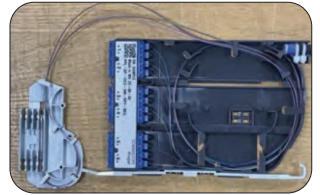

Figure 14
15. Route pigtail and feeder fibers counterclockwise starting along the outer walls and working toward the center of the cassette. (Figure 14)